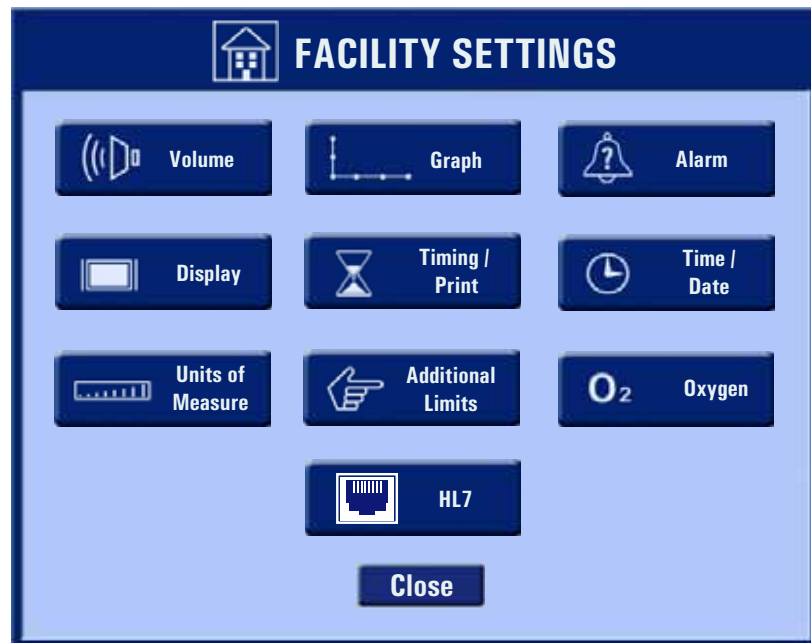

Figure 5-13 PRU Facility Settings Menu Screen
4. Contact the Facility Administrator for the access code. Enter the 4-digit access code, then press **OK**. A Facility Settings menu screen appears (refer to Figure 5-13 on page 5-13), This screen displays all the Facility Settings that you can change for the PRU.
The following screens appear when you select and press a button from the Facility Settings Menu screen (refer to Figure 5-13 on page 5-13):